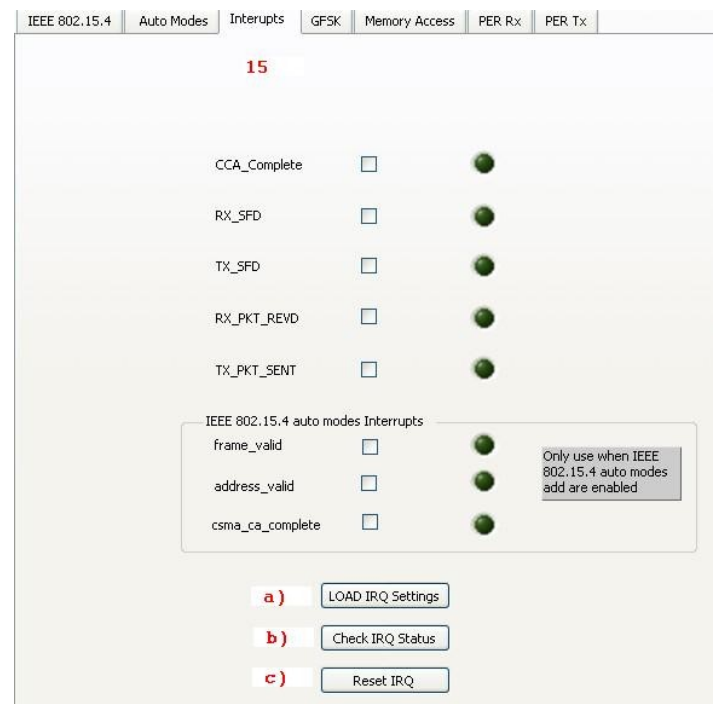

Figure 4 Interrupts tab
15. There are two IRQ pins on the ADF7242. The IRQ1 pin is used as the interrupt pin on the evaluation board. Figure 4 shows the interrupt tab.